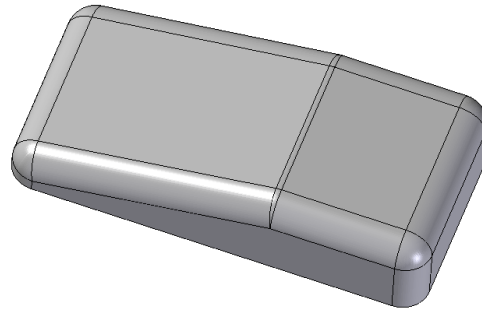

Figure 8-75 Viewing the model from the bottom after adding the draft and round
- Add rounds to the sharp edges of the model, refer to Figure 8-75.
6. Add a round of radius 8 to the sharp edges of the model, as shown in Figure 8-75.